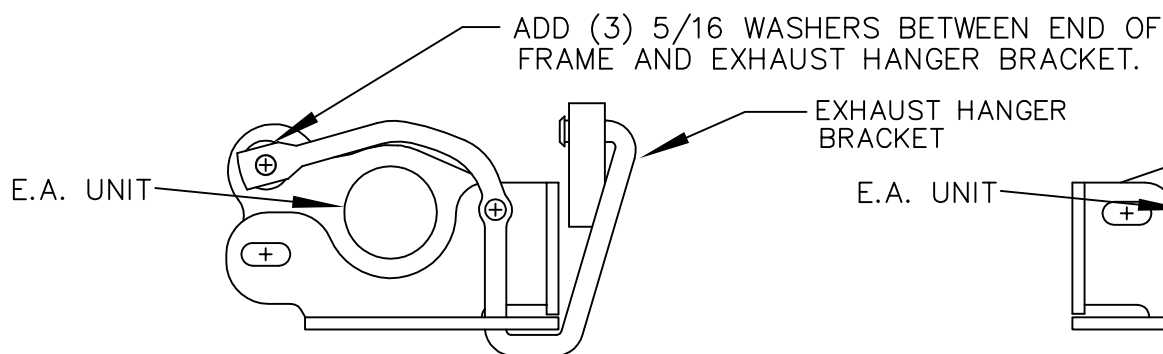

FIG. 3
NOTE: DRIVER'S SIDE EXHAUST HANGER BRACKET MUST BE REATTACHED THROUGH THE OPENING IN THE HITCH UPRIGHT BEFORE REATTACHING SHOULDER BOLT AS SHOWN IN FIG. 3.
THIS WILL REQUIRE WASHERS TO BE USED AS SPACERS BETWEEN THE BRACKET AND VEHICLE. SEE FIGS. 3 & 4.
4. USE THREE (3) 5/16 FLAT WASHERS PROVIDED TO SHIM SPACE BETWEEN EXHAUST BRACKET AND THE UPPER OUTBOARD ATTACHMENT FOR E/A UNIT ON DRIVER'S AND PASSENGER SIDE. USE EXISTING FASTENERS TO REATTACH EXHAUST HANGER BRACKET, SEE FIG 3 AND 4. DEFORMATION OF SHEET METAL FLANGES ON E/A MOUNTING SURFACES IS PERMISSIBLE WHEN FASTENERS ARE TIGHTENED.